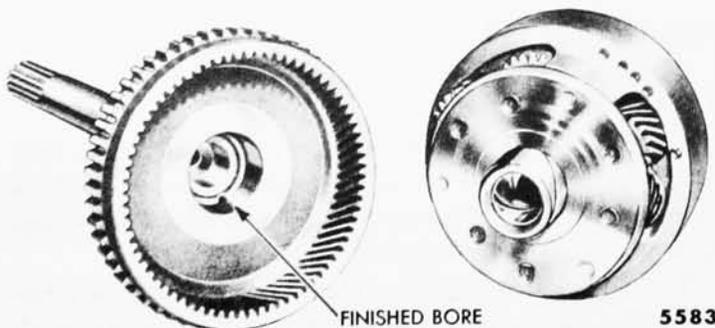

Fig. 8—Output Shaft and Pinion Carrier
(5) **OUTPUT SHAFT.** The bushing formerly used in the forward end of the output shaft has been eliminated. The machine-finished surface of the shaft bore supports the bronze-bushed pinion carrier pilot (fig. 8).